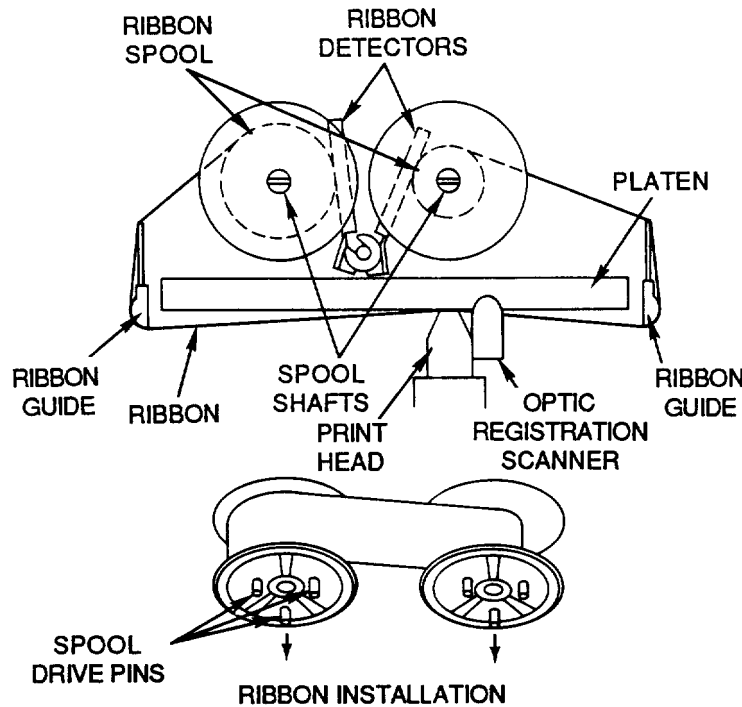

Figure 7. Bradymarker XC Plus Printer.
(1) Ensure battery pack is fully charged, or printer is connected to 120V AC power source.
(2) Install R2100 ribbon (Figure 7).